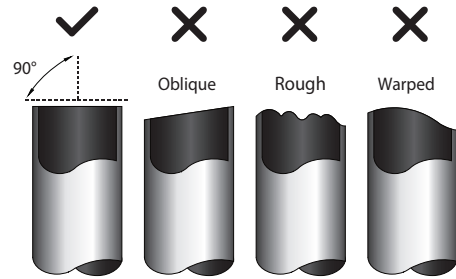

Fig. 7.2
1. Make sure that the pipe is cut at a perfect 90° angle. Refer to Fig. 7.2 for examples of bad cuts.